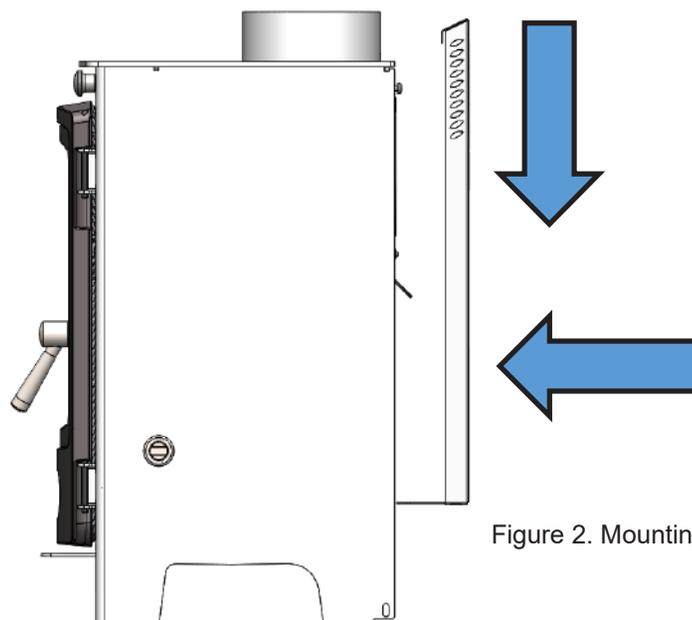

Figure 2. Mounting The Heat Shield
Step 2 : Lower & position the heat shield onto the 2no. protruding screws (See Fig. 2 & 3). If the stove installation requires a rear flue, the matching section of the shield can be knocked out.